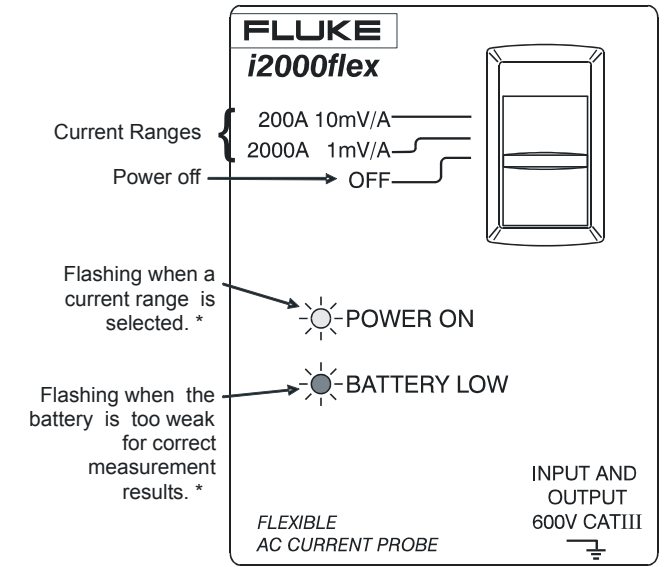

Figure 1. Text on the i2000flex unit
- "BATTERY LOW" indicator not flashing (red LED) (see Figure 1)
Battery Indicators (see Figure 1)